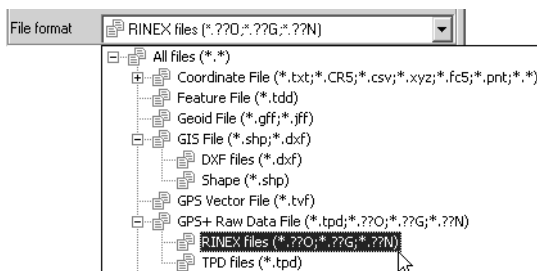

Figure 3-69. File Format List
- Select the File format (Figure 3-69).